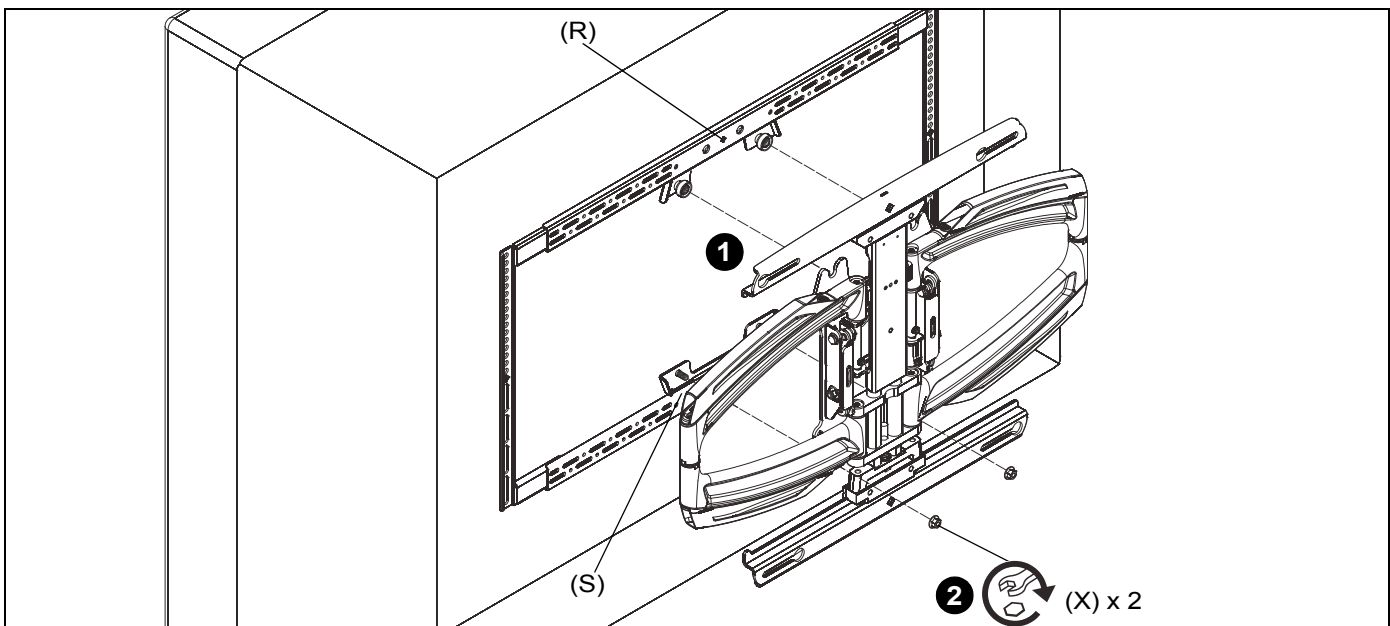

Figure 15
1. Hang interface bracket and display to faceplate by placing two mounting buttons on top interface support (R) over two teardrop grooves on top of faceplate. (See Figure 15)
2. Secure interface bracket and display to faceplate by installing two 5/16-18" flange nuts (X) onto screws on lower interface support (S). (See Figure 15)